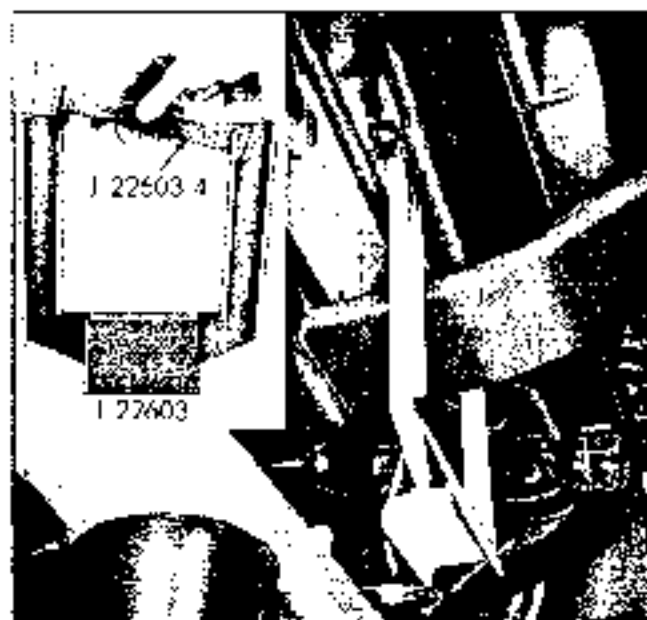

Fig. 6-74—Engine Lifting Tool Installed—Pontiac and Tempest
1. Raise hood and, using J 22603 engine lifting tool, (Fig. 6-74), take weight of engine off front insulators.
1. Raise hood and, using J 22603 engine lifting tool, Fig. 6-74, take weight of engine off front insulators.